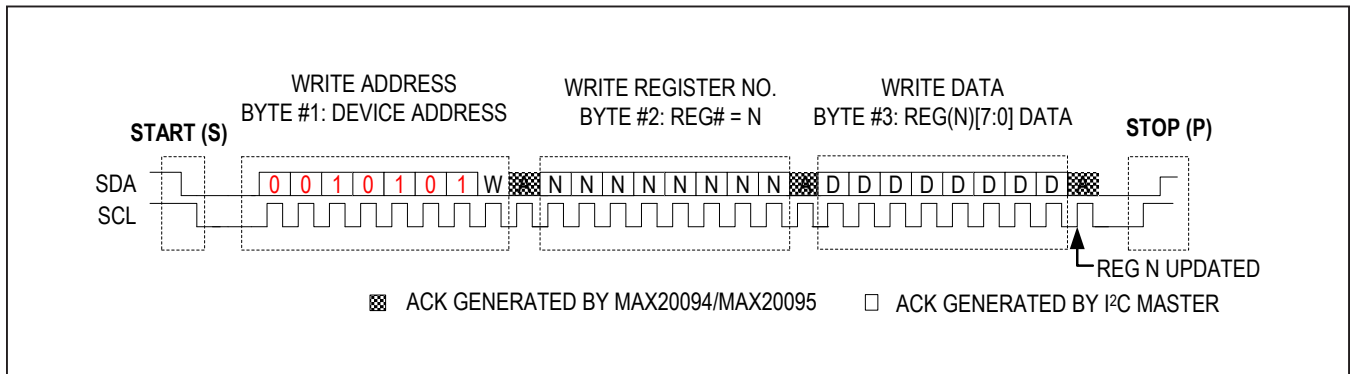

Figure 6. I²C Write Sequence
A master device communicates with the device by transmitting the proper slave address, followed by a register/command and data word(s). Each transmit sequence is framed by a START (S) or Repeated START (Sr) condition and a STOP (P) condition. Each byte is 8 bits long and is always followed by an acknowledge (ACK) clock pulse, as shown in Figure 6. The first byte contains the